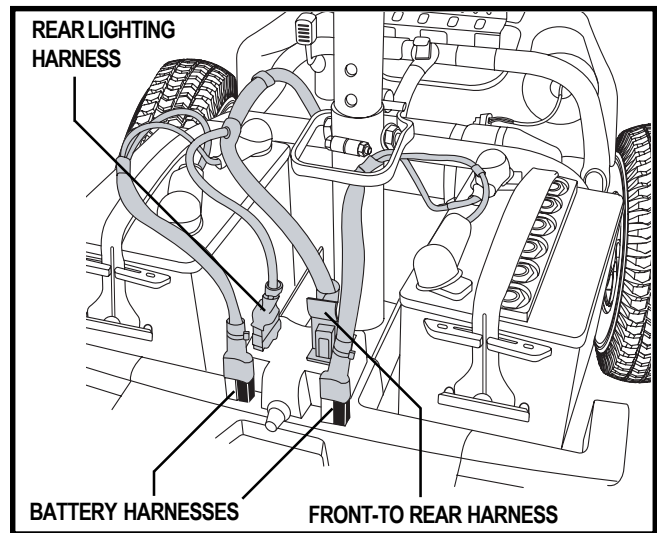

Figure 22. Harness Connections
6. Unplug both battery harnesses. Pull each harness straight up. See figure 22.
3. Slowly separate the two sections. See figure 22.
6. Connect the front-to-rear harness, rear lighting harness, and both battery harnesses. See figure 22.